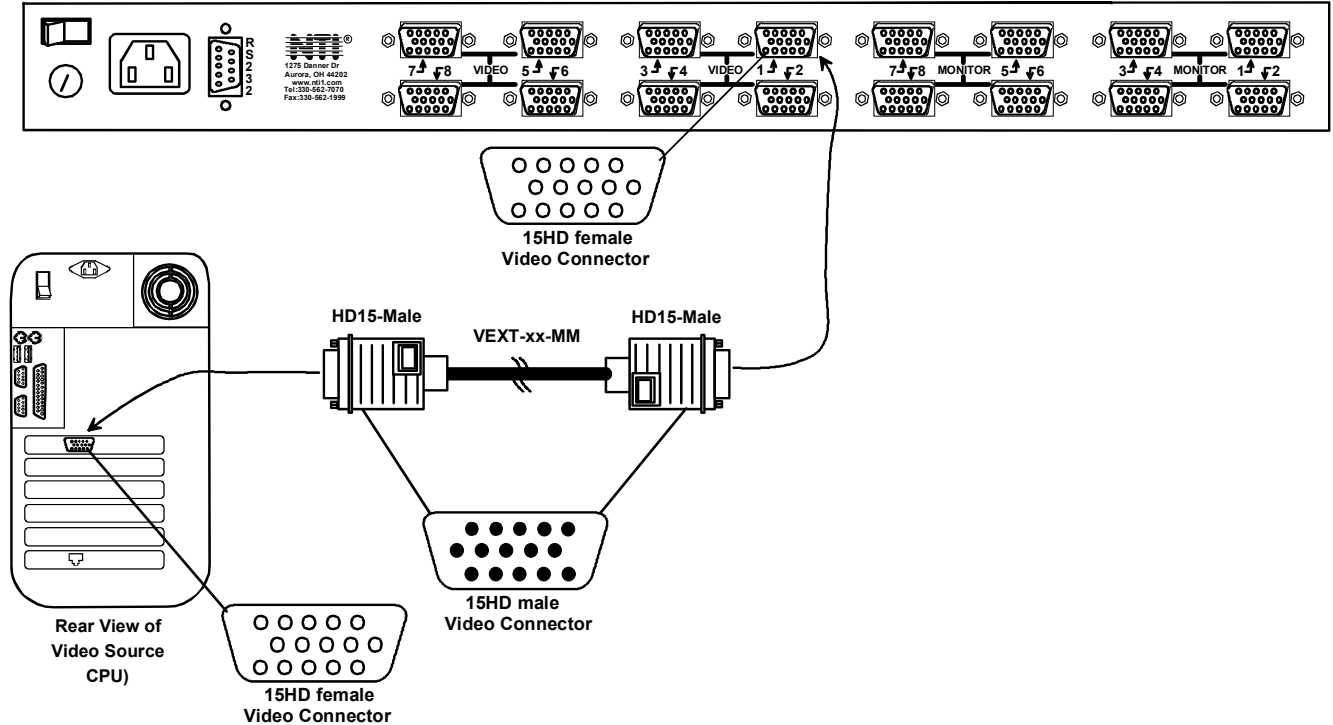

Figure 1- Install Video Source Cables
2. Connect a VEXT-xx-MM cable from the video port of a video source to a 15HD female video connector labeled VIDEO 1 on the VEEMUX. (See Fig. 1)